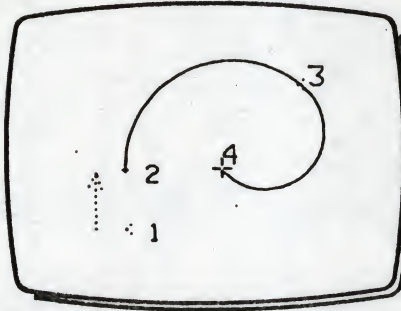

Fig 3
- 3 Move XY to position the dynamic cursor at (1) in Fig 3.
- 5 Move XY to position the dynamic cursor at (2) in Fig 3.
- 7 Move XY to position the dynamic cursor at (3) in Fig 3. This defines the arc end-point.